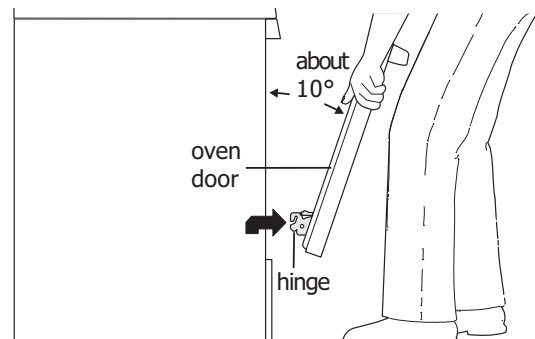
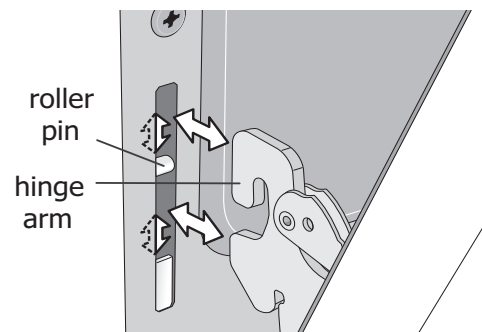

Figure 56: Holding door for removal
Figure 57: Location of hinge arm and roller pin
3. Firmly grasp both sides of oven door along the door sides. Do not use the oven door handle (See Figure 56).
5. Lift the oven door hinge arms over the roller pins located on each side of the oven frame (See Figure 56).
1. Firmly grasp both sides of oven door along the door sides. Do not use the oven door handle (See Figure 56).
2. Holding the oven door at the same angle as the removal position (See Figure 56), seat the hook of the hinge arm over the roller pins located on each side of the oven door frame (See Figure 57). The hook of the hinge arms must be fully seated onto the roller pins.